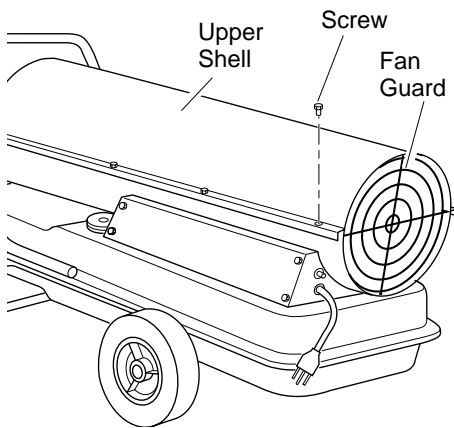
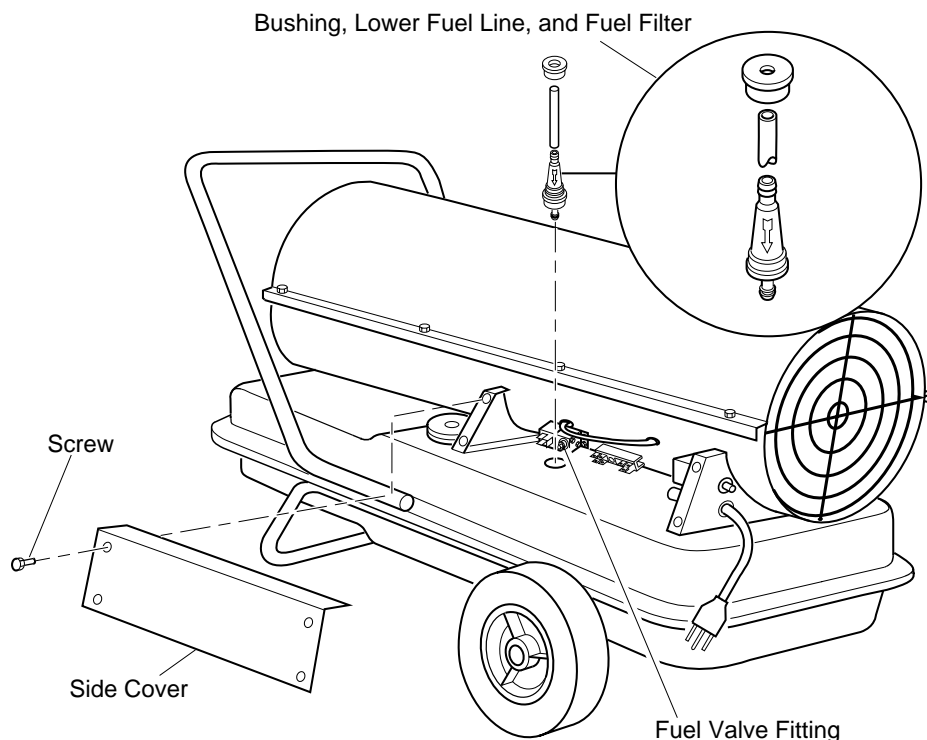

Figure 5 - Upper Shell Removal
Figure 10 - Fuel Filter Removal
1. Remove side cover (see Figure 10), fan guard, and upper shell (see Figure 5, page 8) screws using 5/16" nut-driver.